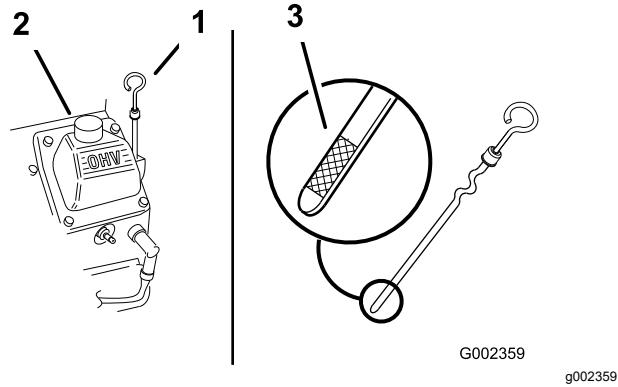

Figure 21
3. Clean around the oil dipstick (Figure 21) so that dirt cannot fall into the filler hole and damage the engine.
4. Unscrew the oil dipstick and wipe the end clean (Figure 21).
5. Slide the oil dipstick fully into the filler tube, but do not thread it onto the tube (Figure 21).
6. Slowly pour approximately 80% of the specified oil into the filler tube (Figure 21).